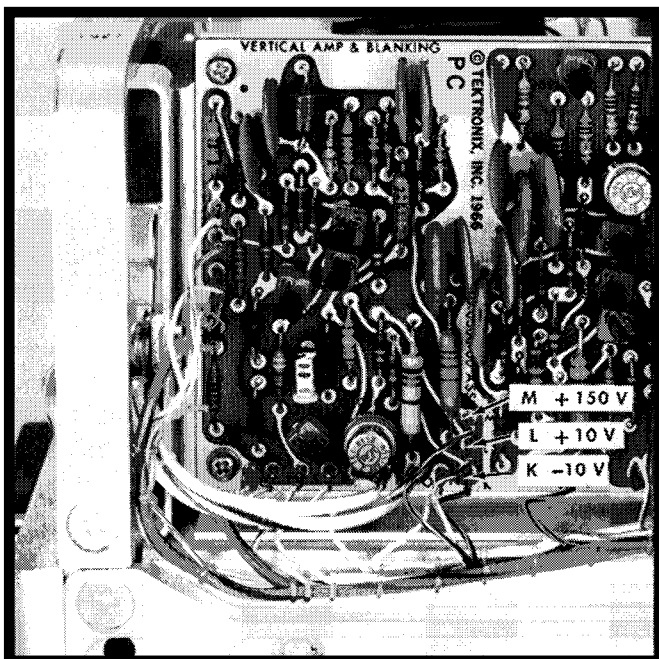

Fig. 6-5. Location of the low voltage check points.
b. Turn the POWER switch to ON position, then connect a calibrated voltmeter between pin K on the Vertical Amplifier and Blanking circuit board, and chassis ground (see Fig. 6-5).
b. Connect the voltmeter between pin L of the Vertical Amplifier and Blanking circuit board and chassis ground (see Fig. 6-5). Check the $+10$ volt supply. Must read between $+9.7$ and $+10.3$ volts ($10\text{ V} \pm 3\%$).
- b. Connect the VOM to the voltage check points (Fig. 6-5), and check the voltage regulation of each regulated supply as the input line voltage is varied through the input line voltage range as shown in Table 6-1.